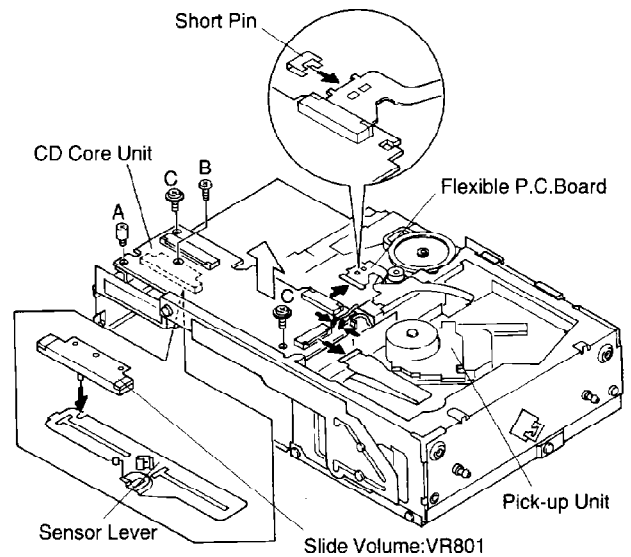

Fig. 2
1. Attach the Short Pin onto the Flexible P.C.Board of the Pick-up Unit.(Fig.2)
2. Remove the Flexible P.C.Board from the connector.(Fig.2)
### ● Removing the CD Core Unit (Fig.2)